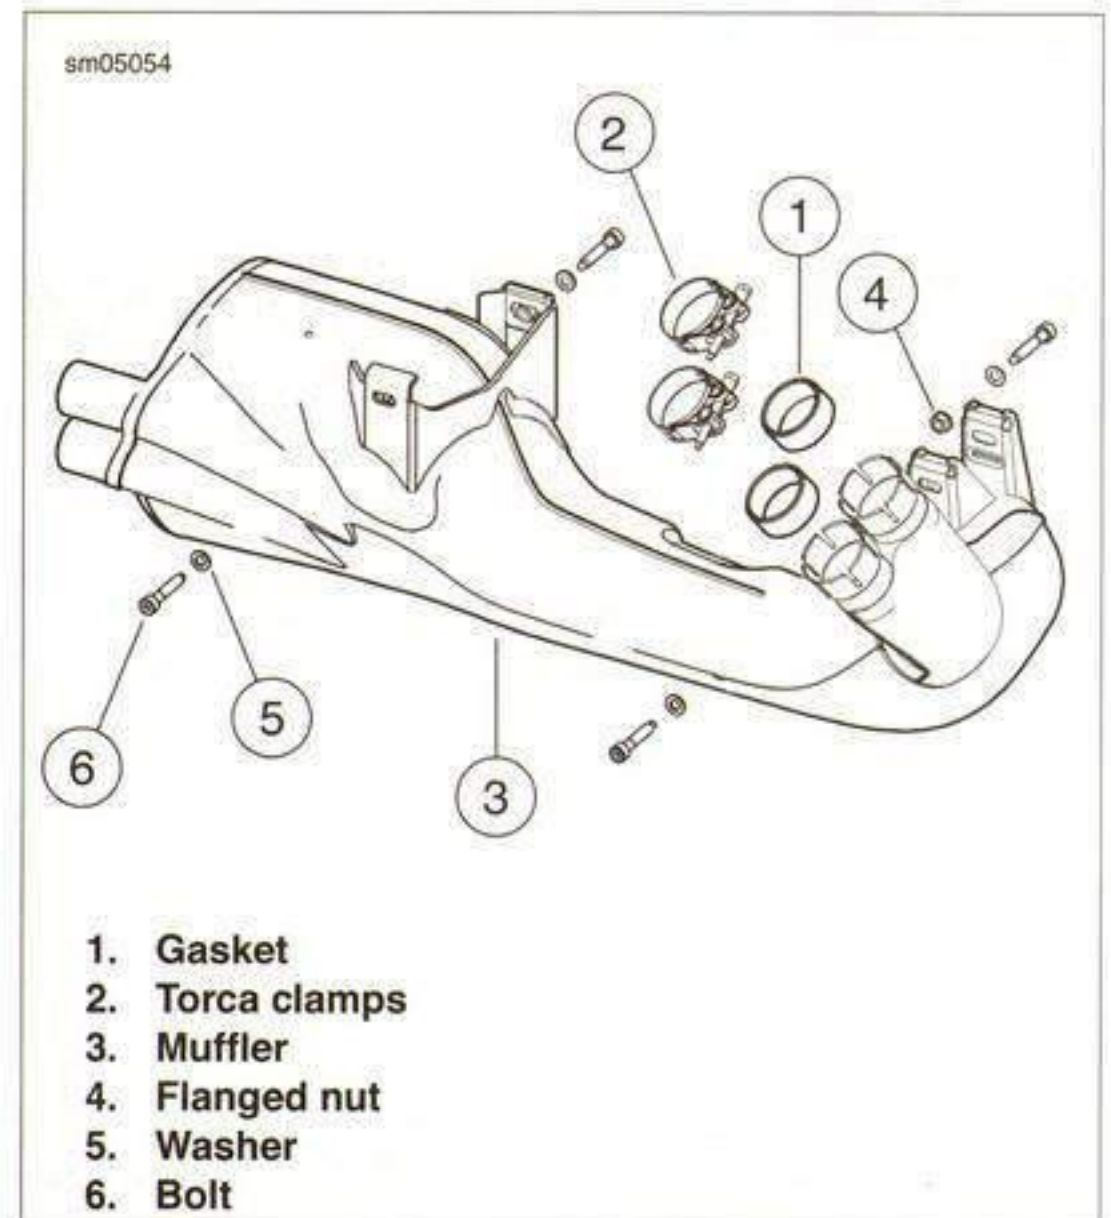

Figure 4-51. Muffler Assembly
1. See Figure 4-51. Install muffler flange gaskets (1) in the muffler inlets.
1. See Figure 4-51. Install the bolt through a washer, the left front of the muffler, the oil cooler mounting tab and onto the flanged nut.